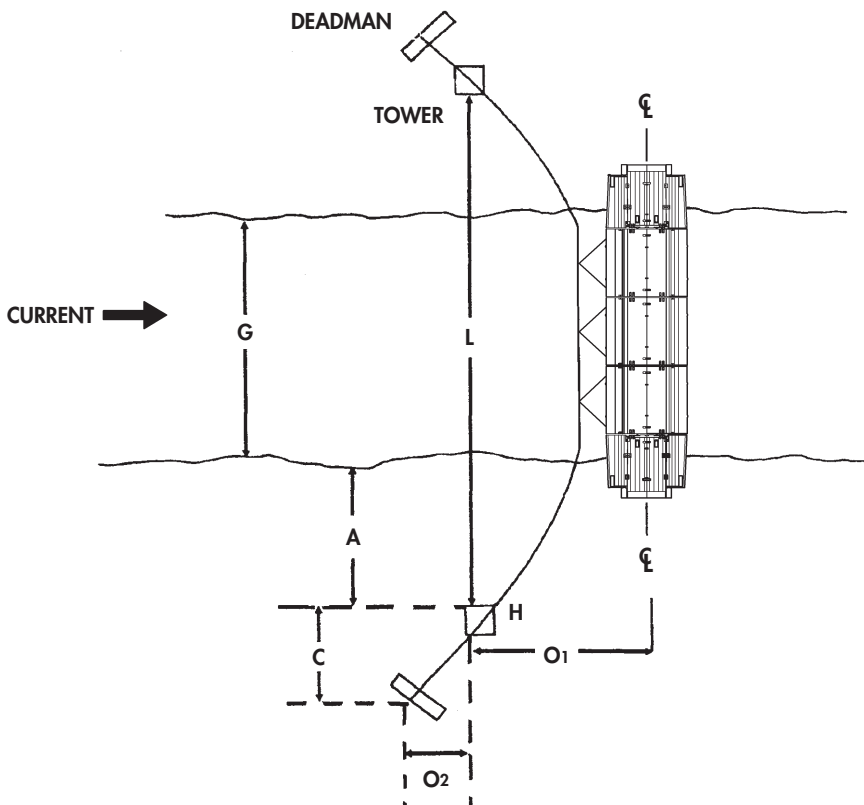

Figure 8. Typical Overhead Cable System.
**a. Overhead cable.** An overhead cable system consists of one or more tower supported cables spanning the river parallel to the bridge. (Refer to figures 8 and 9.) Each end of the overhead cable is secured to the shore, preferably through the use of deadmen. Bridle lines are used to connect each bay of bridge to the overhead cable. The cable functions like the cable used in a suspension bridge, except that in its final working position the cable is inclined toward the bridge because of the force of the current on the bridge.